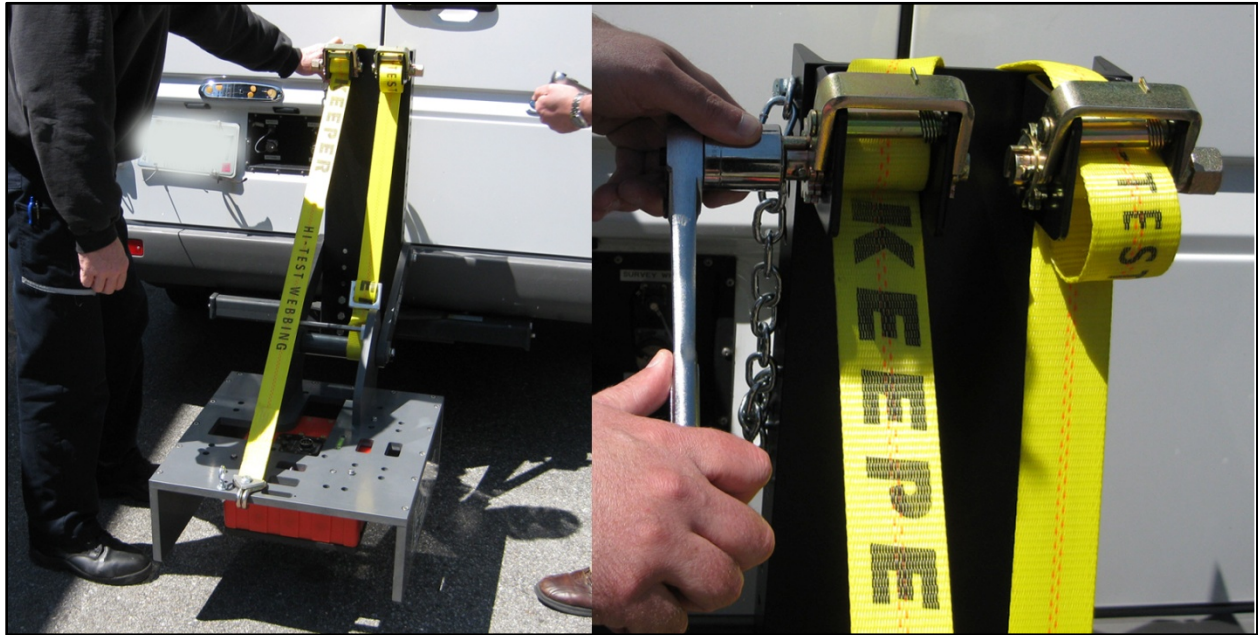

Figure 9: Adjust ratchet straps.
- 6 Adjust ratchet straps.** Use an adjustable wrench or a 1 1/8 inch socket to take up the slack in the ratchet strap and to tighten (Figure 9).